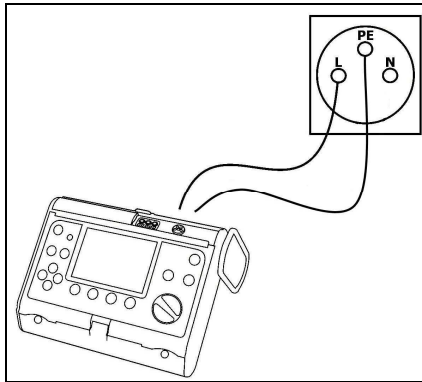

Figure 19. Connection of the meter.
- connect the meter with cables to the network socket in the board in accordance with Figure 19,